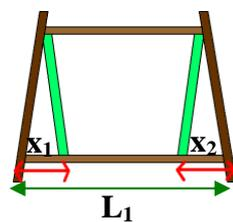
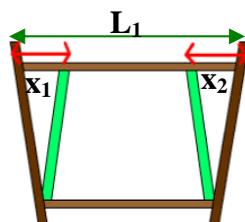

Figure 9a
Figure 10a
- 4.7.3 For adjacent floors in the model, if the floor above is wider than the one below when viewed from the side, such as in Figures 9a and 9b, the projection length of the bracing to the floor below, x_i , should be used, and L_i should be taken as the column spacing on the bottom floor. Meanwhile, if the floor below has a larger width than the one above, as in Figures 10a and 10b, then x_i should be the upward projection length of the bracing to the floor above, while L_i is the column spacing on the top floor.